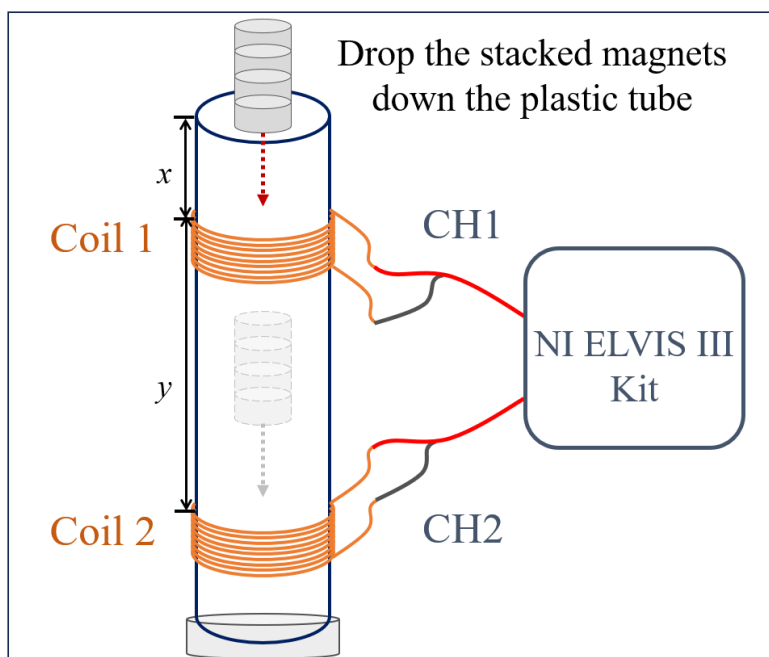

Figure 3: Investigation apparatus to be constructed.
The practical investigation of Faraday's law will utilise the equipment as set-up in Figure 3 below, which contains two coils that you will need to create yourselves.
- Measure the distance x from the top of the tube and mark it with a pen/pencil (specified x , see Figure 3).
- Measure a distance y from the top of coil 1 to determine where to commence coil 2 winding (Figure 3). The coil will be $(x+y)$ mm from the top of the tube.
Drop your **magnet set 2** with **M2** magnets through the plastic tube with coil 1 and coil 2 wrapped on the tube (Figure 3). Observe and record the traces/data on ch 1 and ch 2, and complete the task **B-8**.